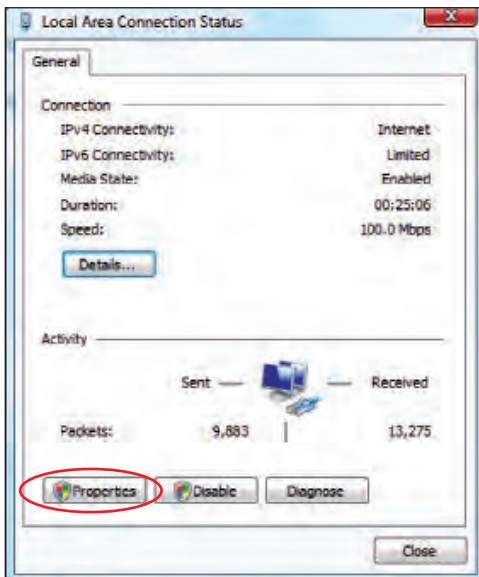

Figure B-7. Local Area Connection Status.
- Your **Local Area Connection Status** window will open. Select **Properties** (Figure B-7).